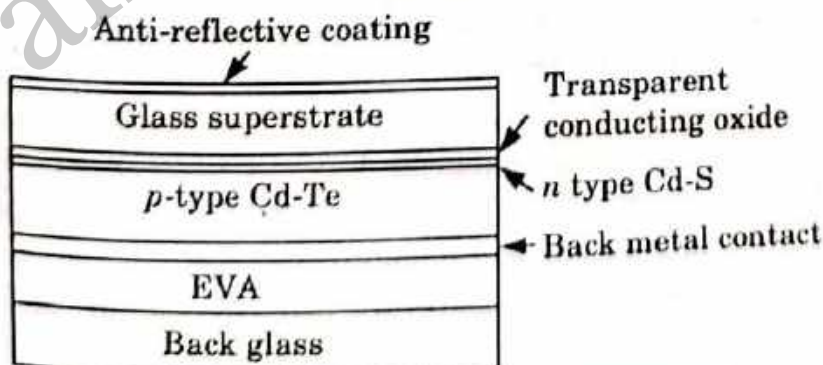

Fig. 3.22.1. Basic structure of Cd-Te cell.
2. Thin film heterogeneous junction with n -type Cd-S and p -type Cd-Te is fabricated as shown in Fig. 3.22.1.